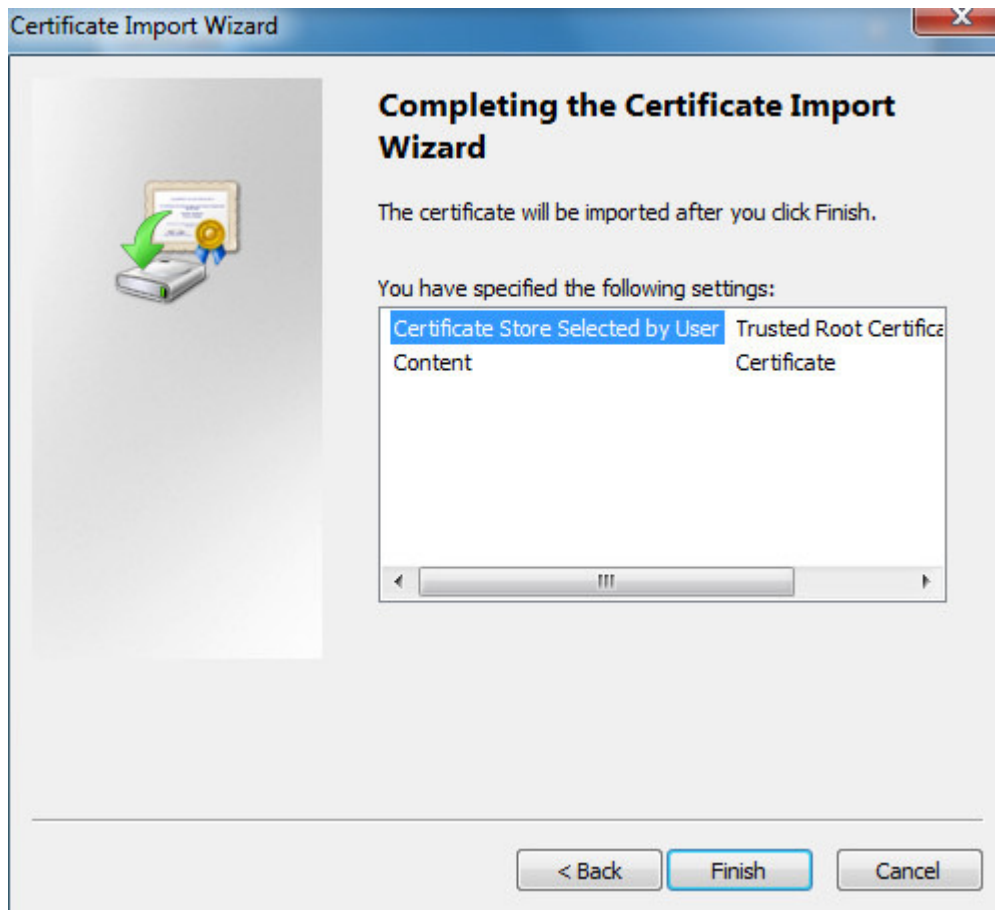

Figure 5-58
9. Click "Next". The system will display the interface of "Completing the Certificate Import Wizard", which is shown in Figure 5-58.